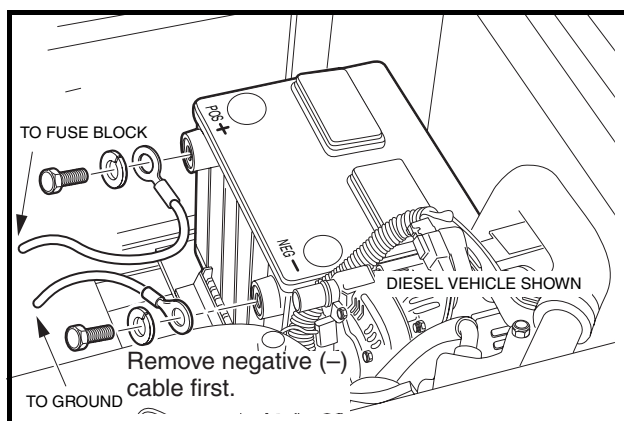

Figure 1 Battery Cable Removal
- Disconnect battery cables, negative (-) cable first (Figure 1).